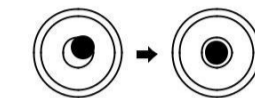

Fig.4
- (4) Turn footscrews and centre the bubble(Fig.4).